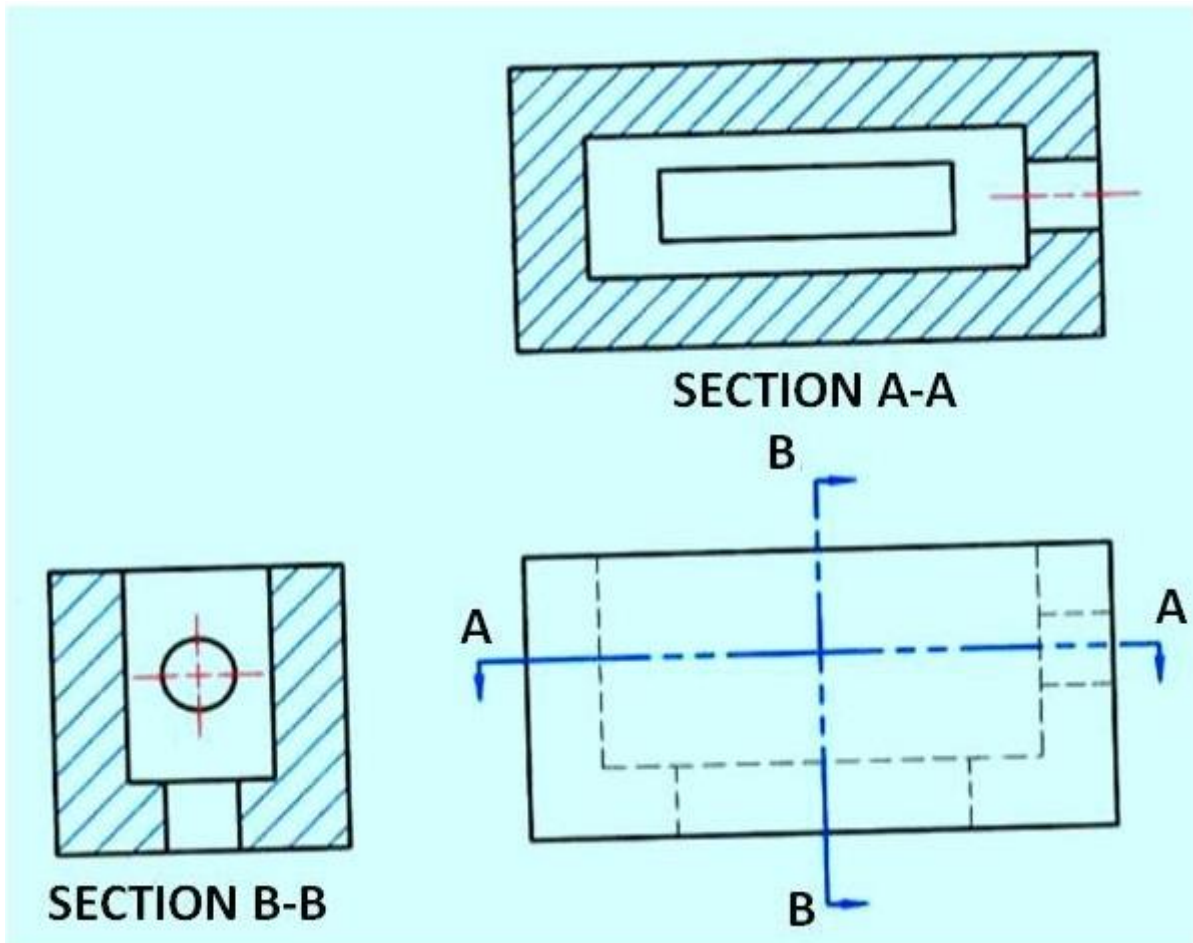

Figure 14. shows a profile cutting plane.
- A profile cutting plane is shown by BB in figure 14. Multiple sections can be done on a single object, as shown in the figure 14.